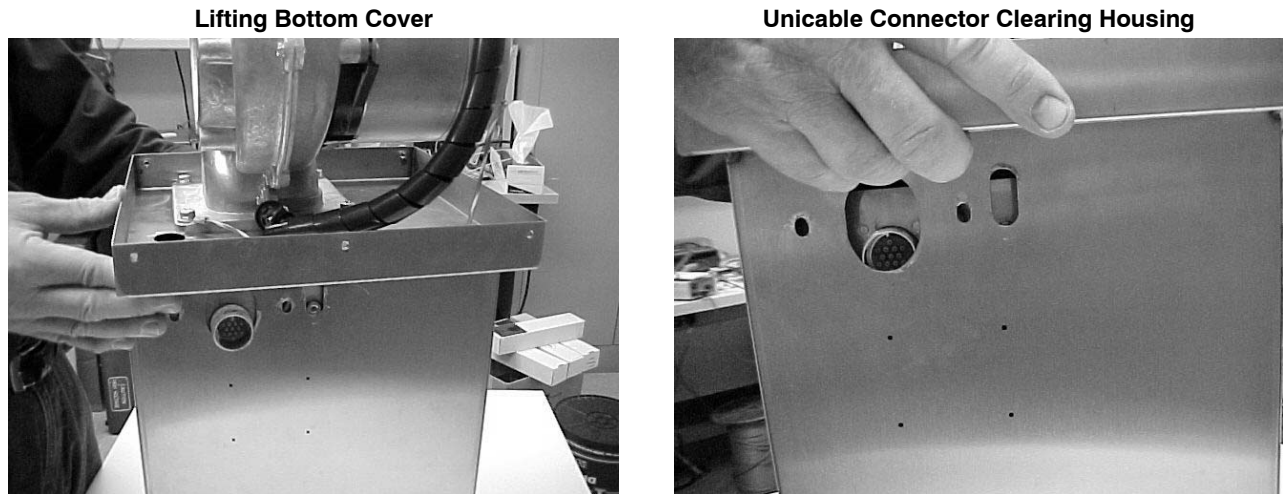

Figure 5-11 Removing Cover
6. See Figure 5-11. Lift the bottom cover straight up and then push the unicable connector into the cover until it clears the cover housing.